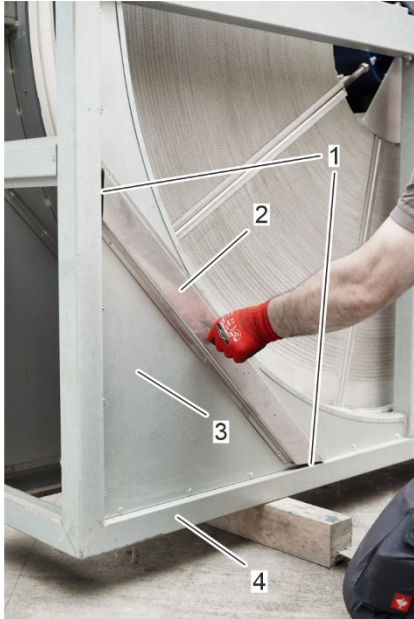

Fig. 22: Crossbeam alignment
1. Align the crossbeam (Fig. 22/2) on the housing of the rotary heat exchanger (Fig. 22/3) so that the mitres of the crossbeam (Fig. 22/1) are parallel to the housing frame (Fig. 22/4).